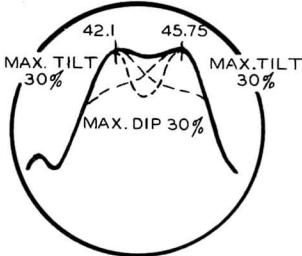

FIG. 13
44. Simultaneously turn sweep generator and UHF tuner thru the UHF band. If response curve at lower end of band is not within the limits shown in Fig. 13, remove UHF tuner cover and adjust mixer and antenna segments on variable tuning capacitor plates for best over all response. Replace tuner cover and recheck entire UHF band. Disconnect test equipment. Remove 330Ω resistor from pin 5 of V3 and restore connection of L16 to pin 5 of V3.